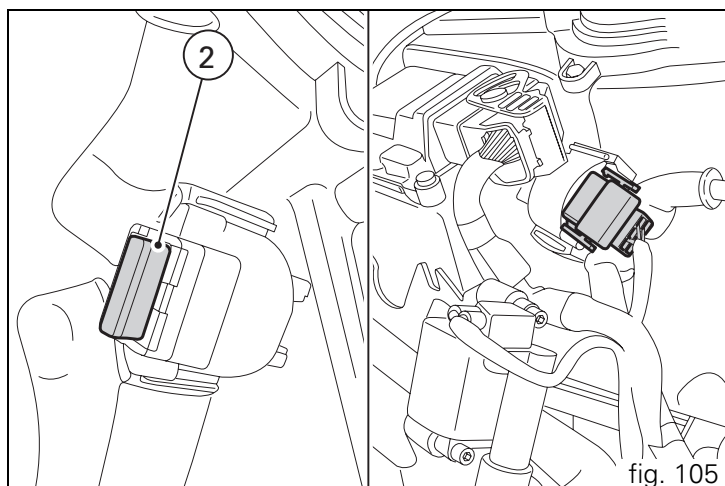

fig. 105
**Electronic voltage regulator** (rectifier), protected by a **30 A** fuse located next to the ECU (2, fig. 105).